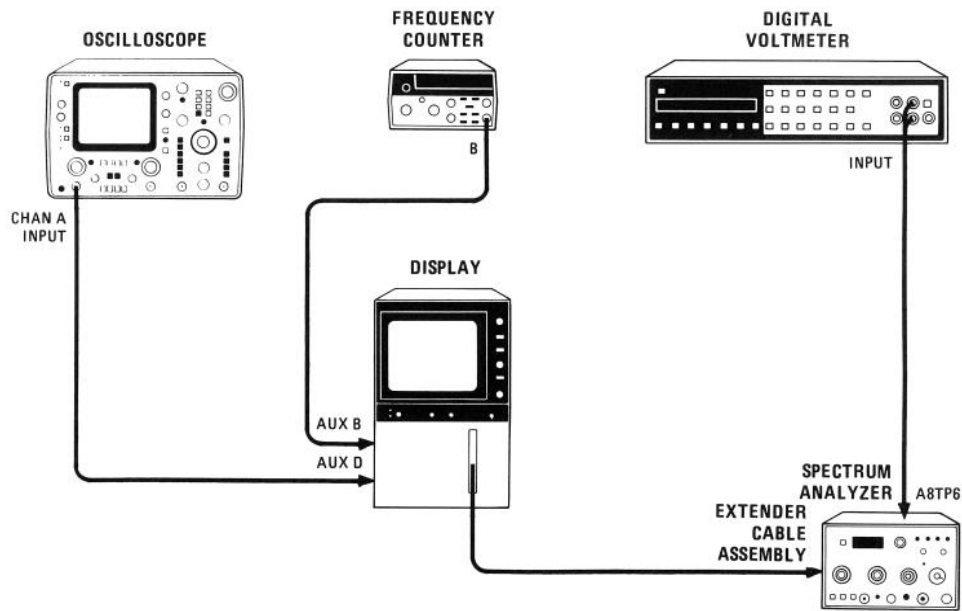

FIGURE 5-14. SWEEP TIME PER DIVISION ADJUSTMENT TEST SETUP
2. Connect equipment as shown in Figure 5-14. Connect oscilloscope to AUX D, HORIZONTAL OUTPUT, rear of display mainframe, or to A8TP5 of HP 8558B. Connect digital voltmeter to A8TP6 (located to the left and below A8TP4.)